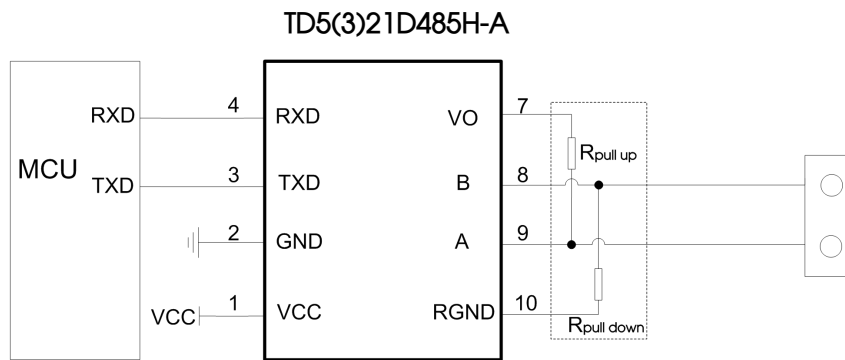
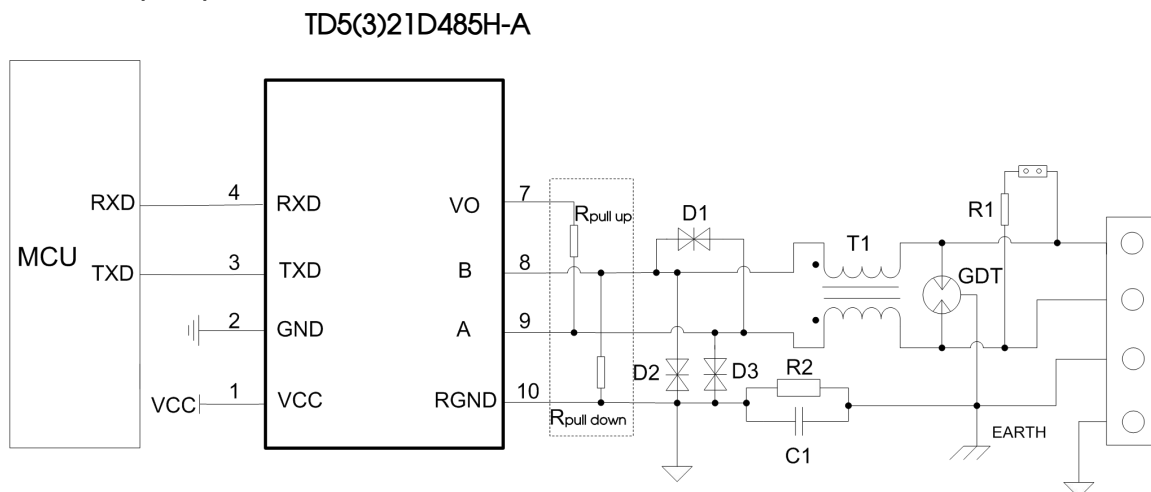

Fig.1
Fig.2
IEC/EN 61000-4-2	Contact $\pm 8kV$ (see Fig.2, A,B port) Perf. Criteria B
IEC/EN 61000-4-5	$\pm 4kV$ (see Fig.2, A,B port) Perf. Criteria B
As shown in Figure 1, the picture shows TD5 (3) 21D485H-A isolated transceiver module typical connection circuit, R pull-up, R pull-down for the external reserve pull-down resistor bit, according to the actual situation to choose whether the need for external up and down resistance. TD5(3)21D485H-Alsoated transceiver module has built-in 47kΩ pull-down resistor, under normal circumstances the use of internal pull-up, pull-down resistor to meet the demand.
As the module internal A / B line comes with ESD protection, so users generally apply to the environment in good circumstances without additional ESD protection devices, as shown in Figure 1, the typical connection circuit. But if the application environment is relatively poor) such as high voltage power, lightning and other environments), it is recommended that users must be in the module A / B line side plus TVS tube, common mode inductors, Gas discharge tube, shielded twisted pair or the same network single point Earth and other protective measures. Therefore, the recommended application circuit shown in Figure 2, the recommended parameters as shown in the table. Recommended circuit diagram and parameter values for reference only, according to the actual situation to determine whether the need for circuit diagram of the device and the appropriate parameter values.